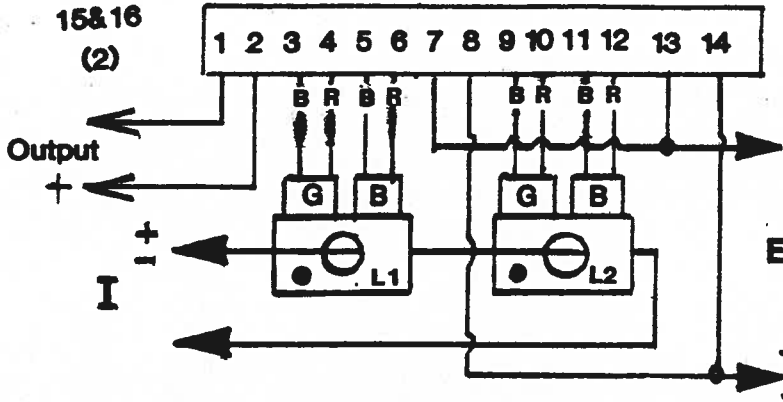
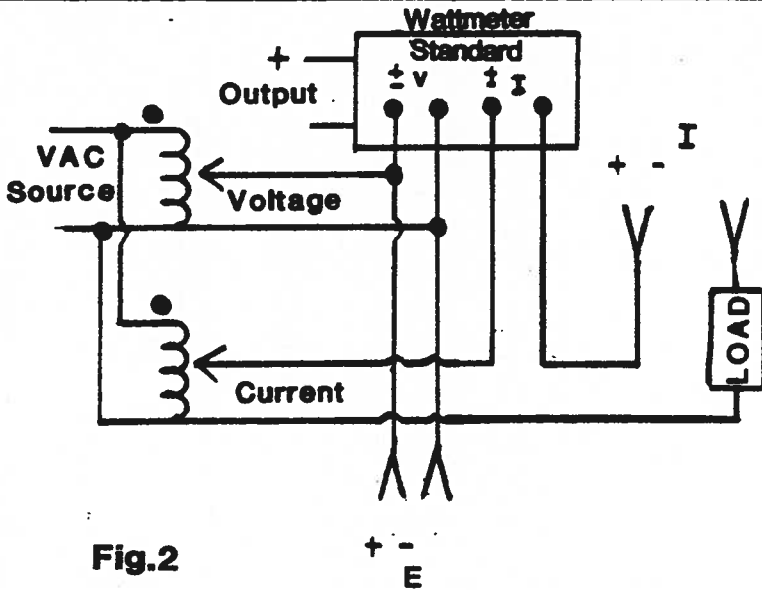

Fig. 1 USING CURRENT TRANSDUCERS
Fig. 2
Figures 1, 2, 3 and 4 provide all the various standard test connections diagrams for the P Series Watt Transducer. As you can see, the voltage connections are in parallel and the current connections are in series.
The best method of calibration is to use a Precision Wattmeter Calibrator; if this instrument is not available, the set up shown in figure 2 or 3 can be used.
In figure 2 the two variacs are used to give independent adjustment between the voltage and current circuits. The voltage input which is represented with the letter "E", requires a low current variac with a voltage range of either 0 to 150, 0 to 300 or 0 to 600VAC.
- (B) The following is an example of calibration of a standard P Series Watt Transducer using the Calibration Test Set-up shown in figure 2.
Test Connections Drawing	Figure 1
Make the necessary connections between figure 2 and figure 1.